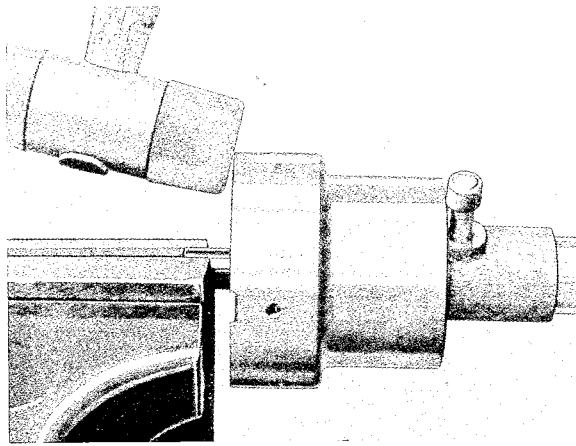

Fig. 3-80. Removing circlip
2. Disconnect the springs to the centrifugal governor and mark up where the drive shaft is located in relation to the distributor shaft. Secure the drive shaft in a vise with soft jaws, see Fig. 3-80.